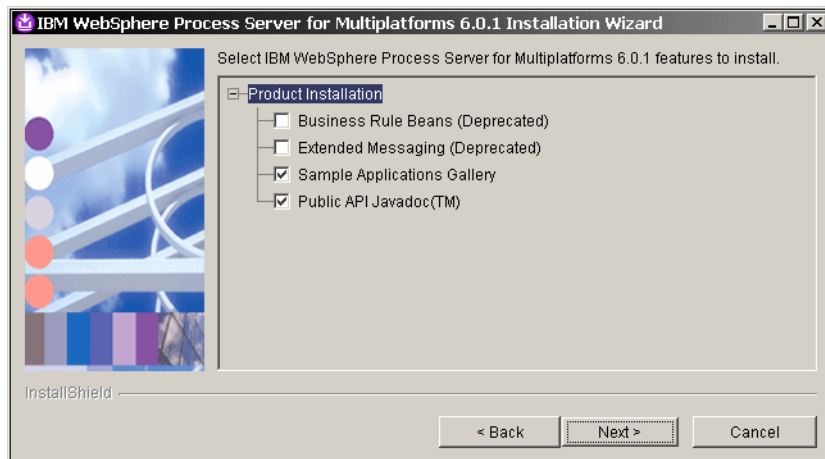

Figure A-12 WebSphere Process Server: Installation options
- ▶ Select installation options (Figure A-12).